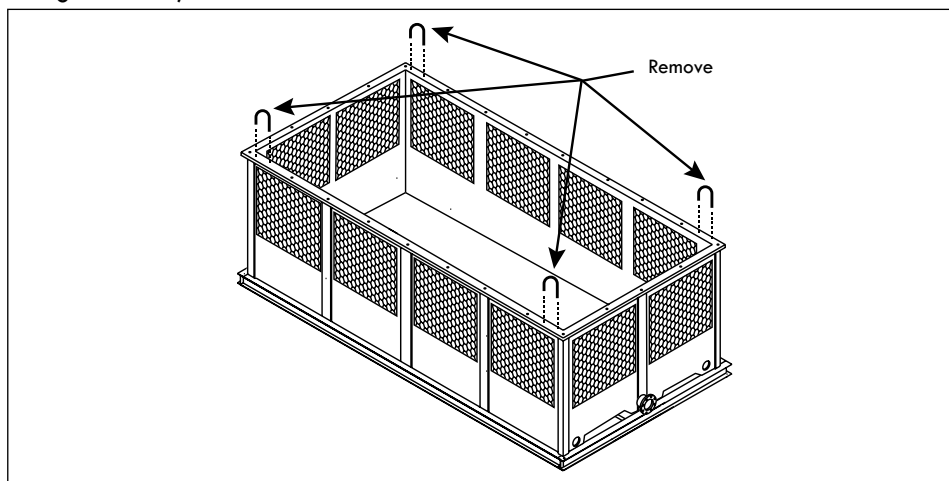

Figure A-16: Removing U-bolts from basin for a Two Fan Tower
- I. After the basin has been set in place, remove the U-bolts located on the flange before installing the next section (see Figure A-16).